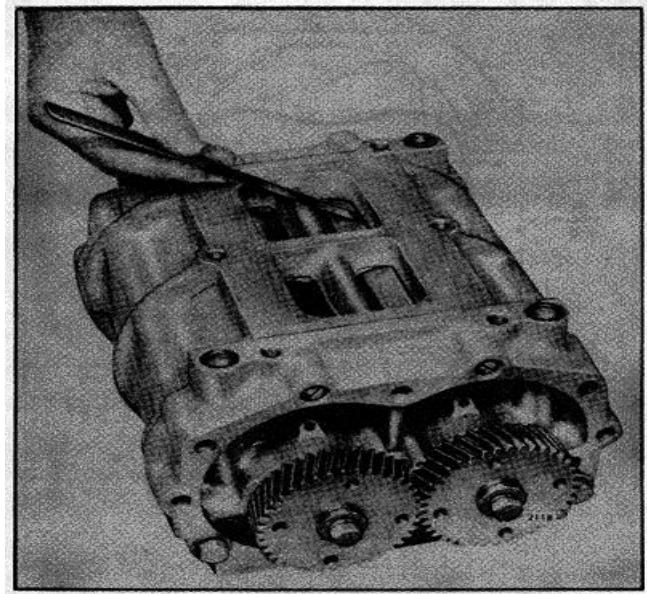
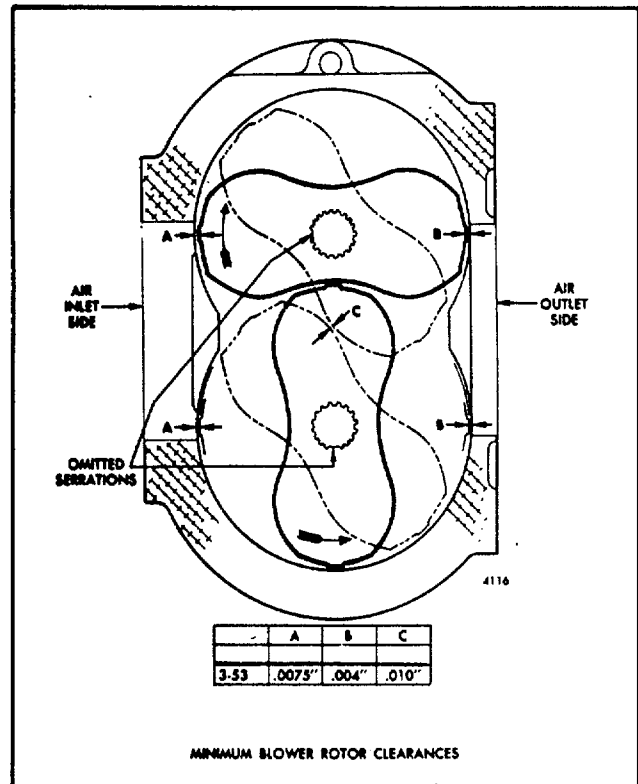

Fig. 14 Measuring Rotor Lobe to Housing Clearance
Fig. 15- Minimum Blower Rotor Clearance
8. Position the rotors so that the missing serrations on the gear end of the rotor shafts are 90° apart. This is accomplished by placing the rotors in a "T" shape, with the missing serration in the upper rotor facing to the left and the missing serration in the lower rotor facing toward the bottom (Fig. 14). Install the shims and spacers in the counterbore in the rear face of the rotor gears. Then place the gears on the ends of the shafts with the missing serrations in alignment with the missing serrations on the shafts.
the housing as shown in Fig. 14. Take measurements across the entire length of each rotor lobe to be certain that a minimum clearance of .004 " exists at the *air outlet side* of all blowers and a minimum clearance of .0075 " (in-line engine blower) exists at the *air inlet side* of the blower (Fig. 15).
- b. Measure the clearance between the rotor lobes, across the length of the lobes, in a similar manner. By rotating the gears, position the lobes so that they are at their closest relative position (Fig. 15). The clearance between the lobes should be a minimum of .010 ".